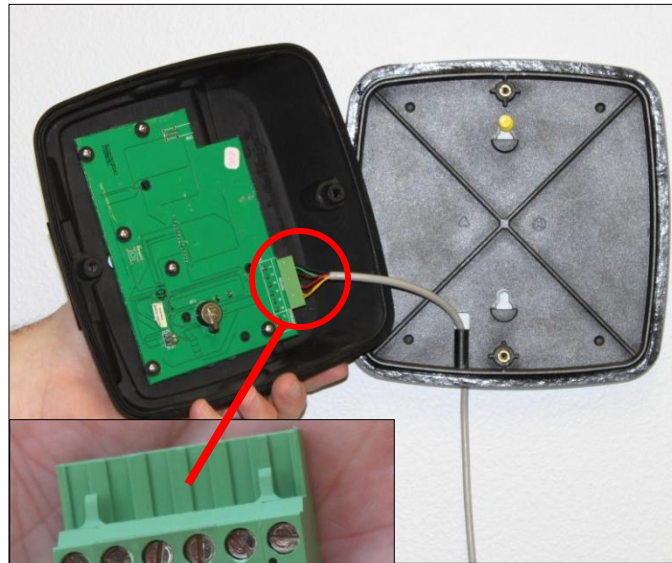

Figure 19
8. Attach the six wires to the new data plug as shown, taking care to note the color and corresponding number on the data plug as you did with the data plug on the pump (fig 20). Install the plug into the interface assembly (fig 19).